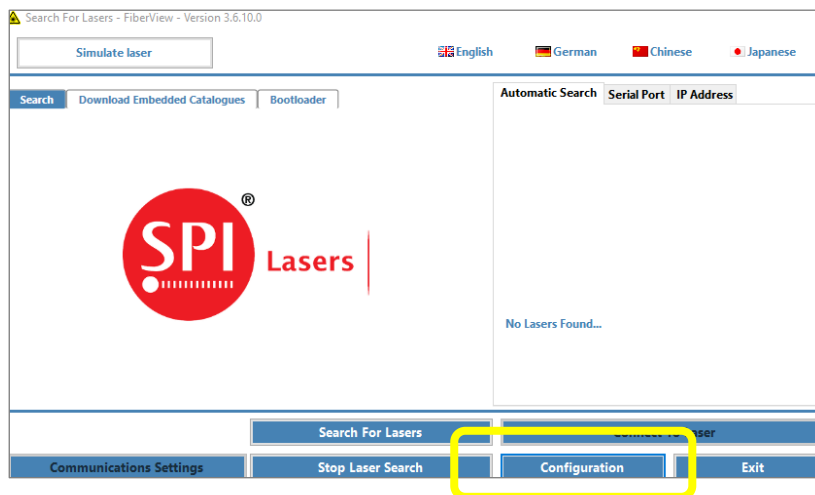

Figure 13 FiberView Search Configuration Button
1. Open FiberView and from the search screen, open the Configuration window by clicking the Configuration button as shown in Figure 13 FiberView Search Configuration Button